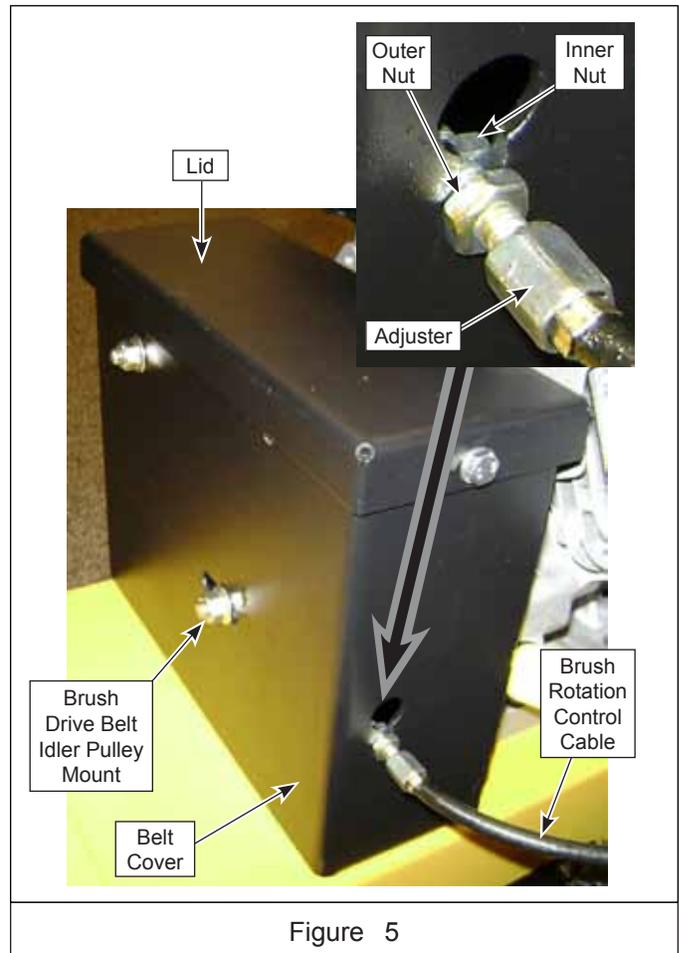

Figure 5
2. Remove (2) 9mm hex head capscrews, flat washers and lid from top of belt cover. See Figure 5.
NOTE: The belt idler mounting (pivot) point may also be moved away from belt to increase the available adjustment of actuation cable. See Figures 5 and 6.
- Alternately install spacers and remaining straight wafers on core in a wafer-spacer, wafer-spacer configuration until core is full. See Figure 5.